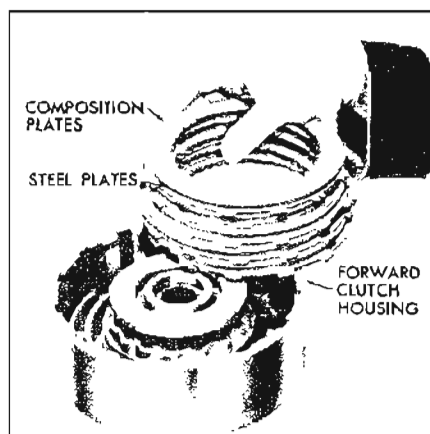

Figure 5-617
7. Oil and install five (5) composition and five (5) steel clutch plates, starting with steel and alternating steel and composition. See Figure 5-617.